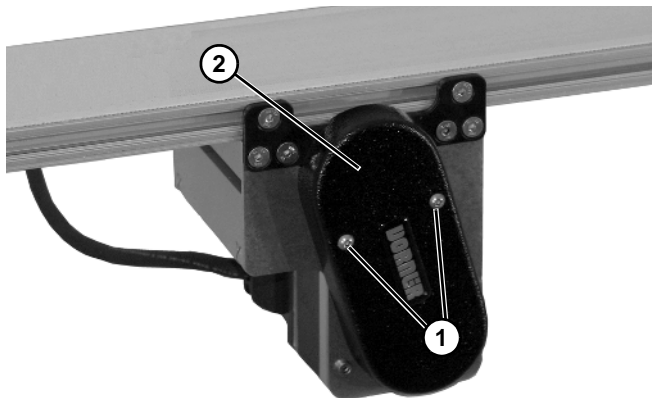

Figure 20
16. Install cover (Figure 20, item 2) with two screws (Figure 20, item 1).